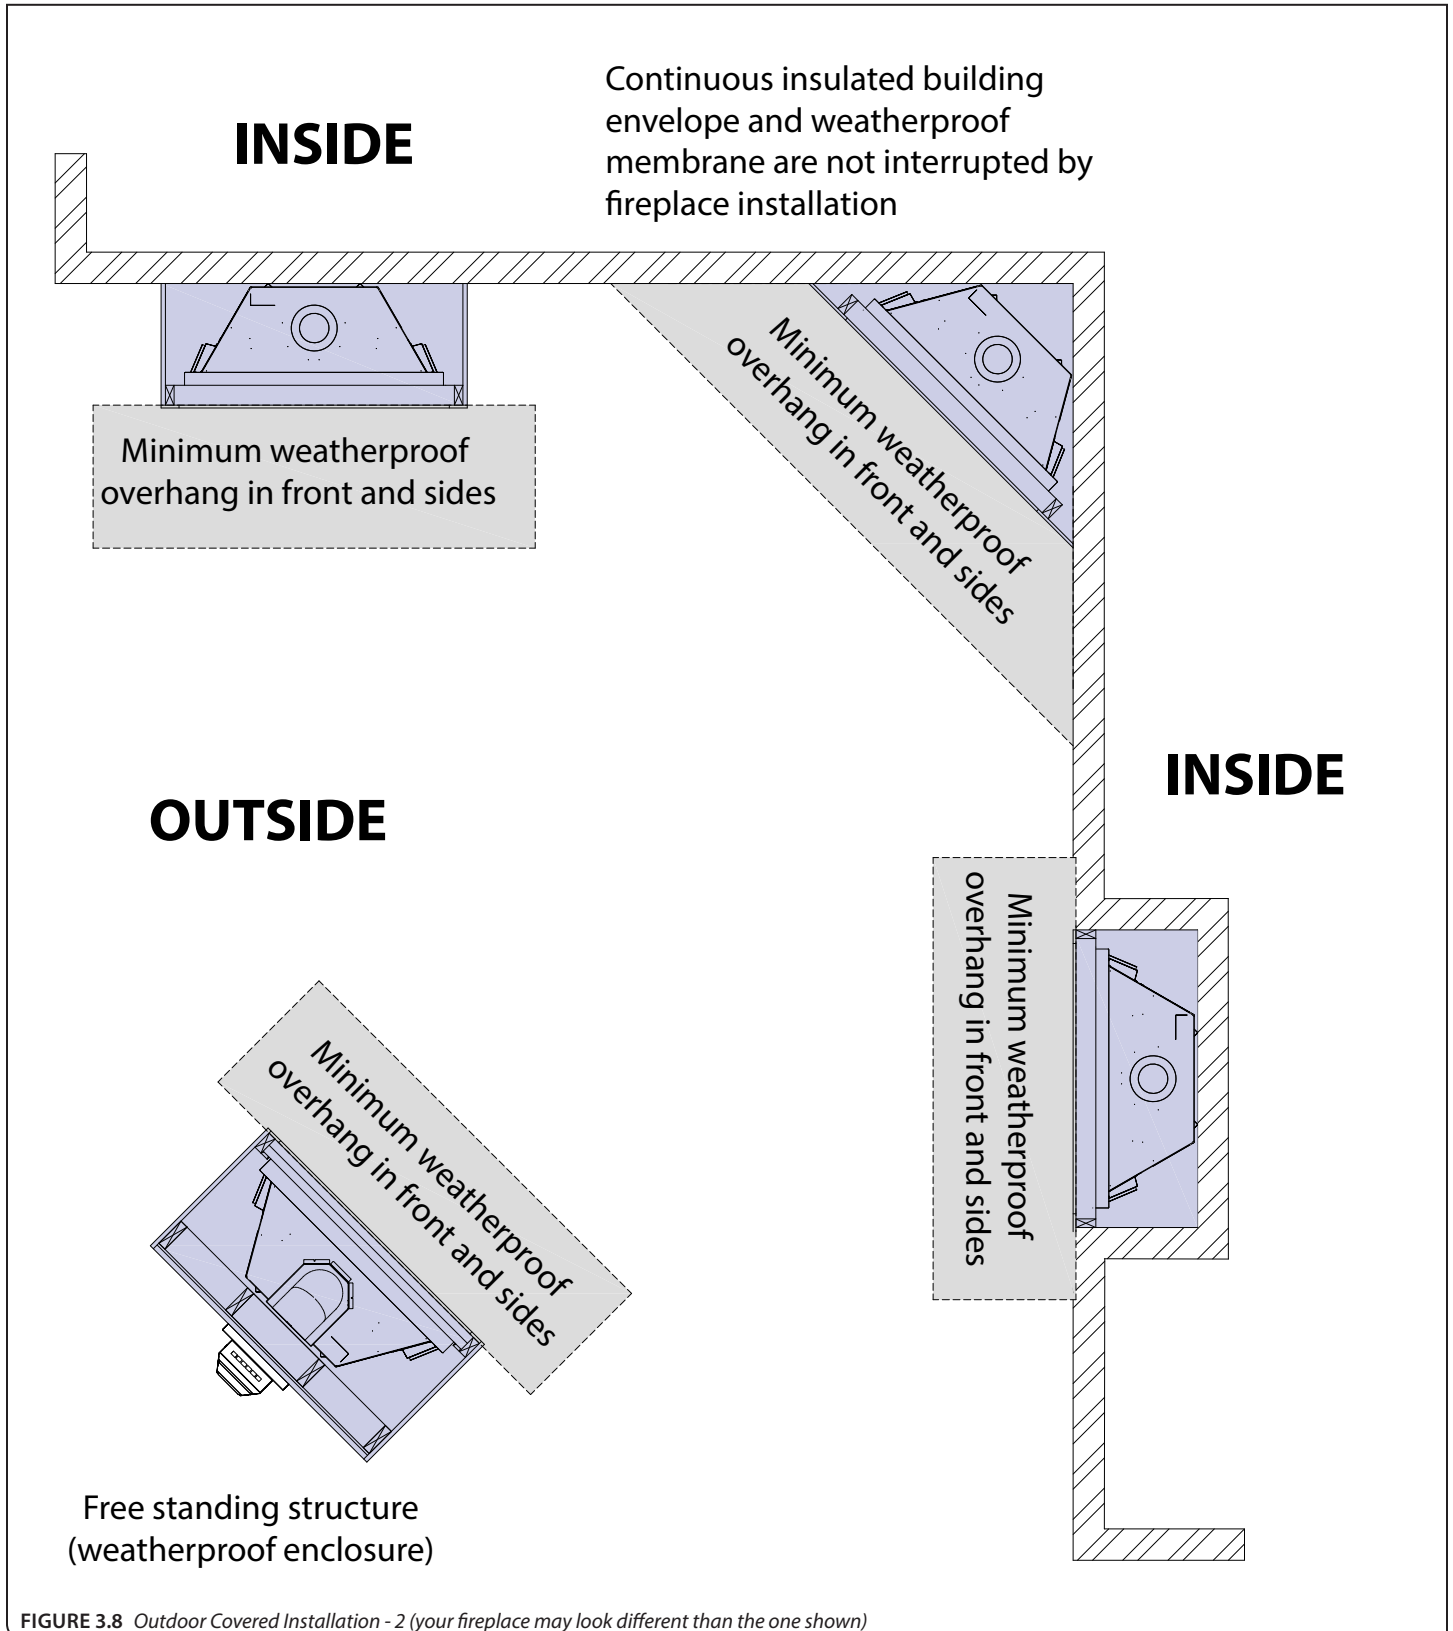

FIGURE 3.8 Outdoor Covered Installation - 2 (your fireplace may look different than the one shown)
- The continuous insulated building envelope and weatherproof **FIGURE 3.8** on the following page.